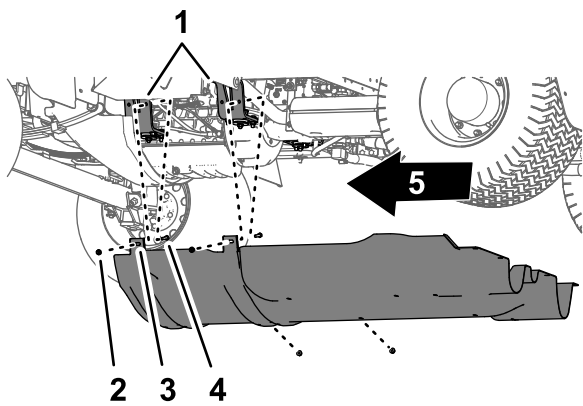

Figure 63
2. Remove the 4 flange locknuts (5/16 inch) from the bolts and carriage bolt that secure the mounting tabs of the undercarriage shroud to the engine-mount brackets of the machine (Figure 63).
4. Remove the undercarriage shroud from the machine (Figure 62 and Figure 63).
1. Align the undercarriage shroud to the bottom chassis of the machine; refer to Figure 63 in Removing the Undercarriage Shroud (page 52).
2. Move the mounting tabs of the undercarriage shroud over the bolts and carriage bolt at the engine-mount brackets of the machine; refer to Figure 63 in Removing the Undercarriage Shroud (page 52).
3. Assemble the undercarriage shroud to the engine-mount brackets and bolts (Figure 63) with the 4 flange locknuts (5/16 inch) that you removed in step 2 of Removing the Undercarriage Shroud (page 52).